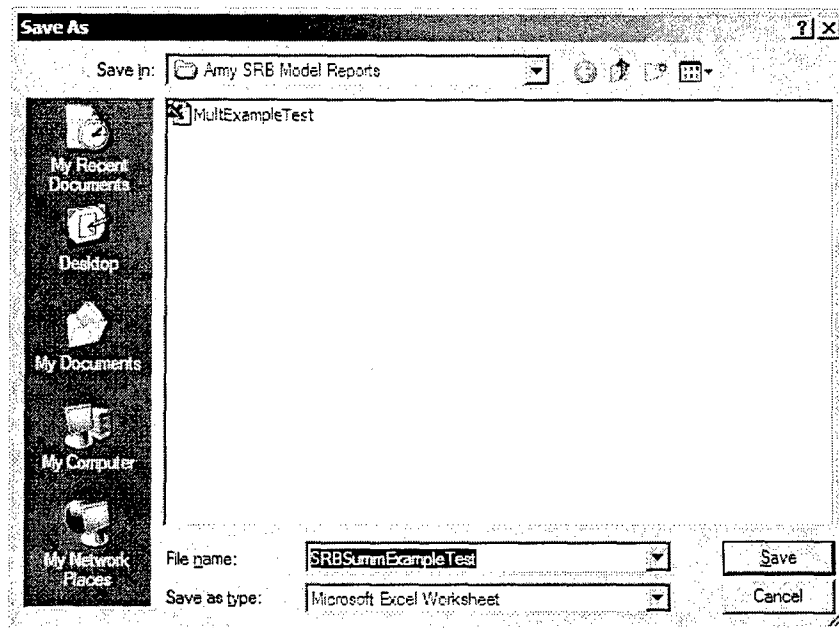

Figure 56. SRB Summary Report Export Save to Disk
- When you save the workbook, you may also choose a different name by overwriting the default name in the File Name box (see Figure 56).